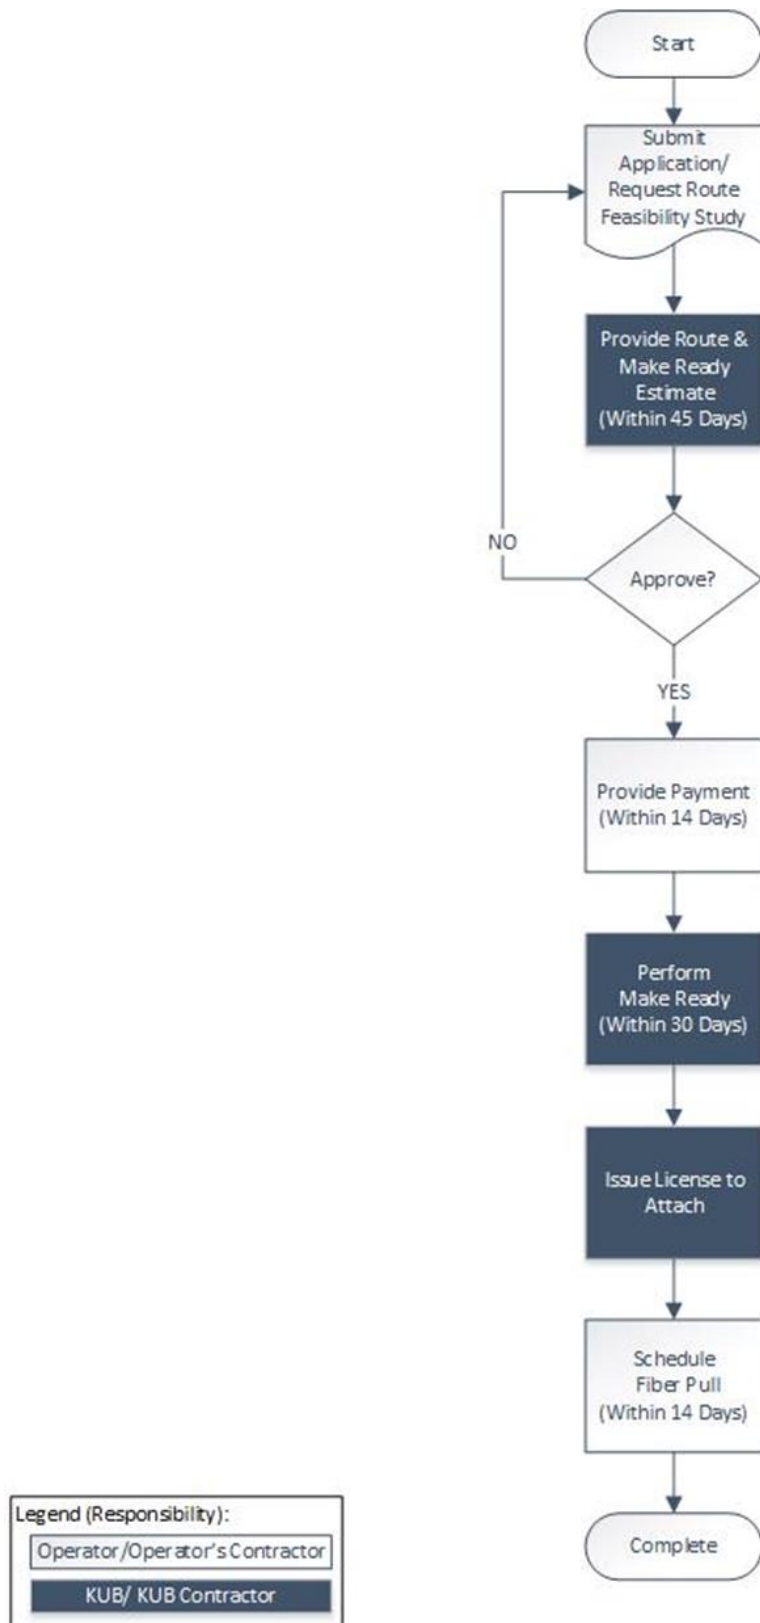

Figure 2.3 Conduit Attachment Process
Conduit usage refers to a single communications cable or other object/equipment occupying one (1) linear foot of a single conduit, duct, innerduct, or other enclosed structure in KUB's underground conduit system. The process for making conduit attachments is summarized below and illustrated in Figure 2.3.